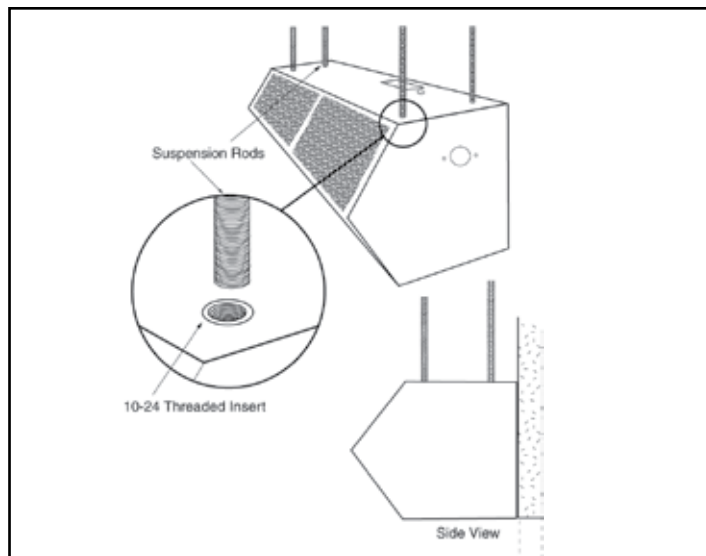

FIGURE 5 - Suspended Mounting
- B. Four (4) factory installed #10-24 threaded inserts are located on the top of the unit for top suspension mounting. **See Figure 5**